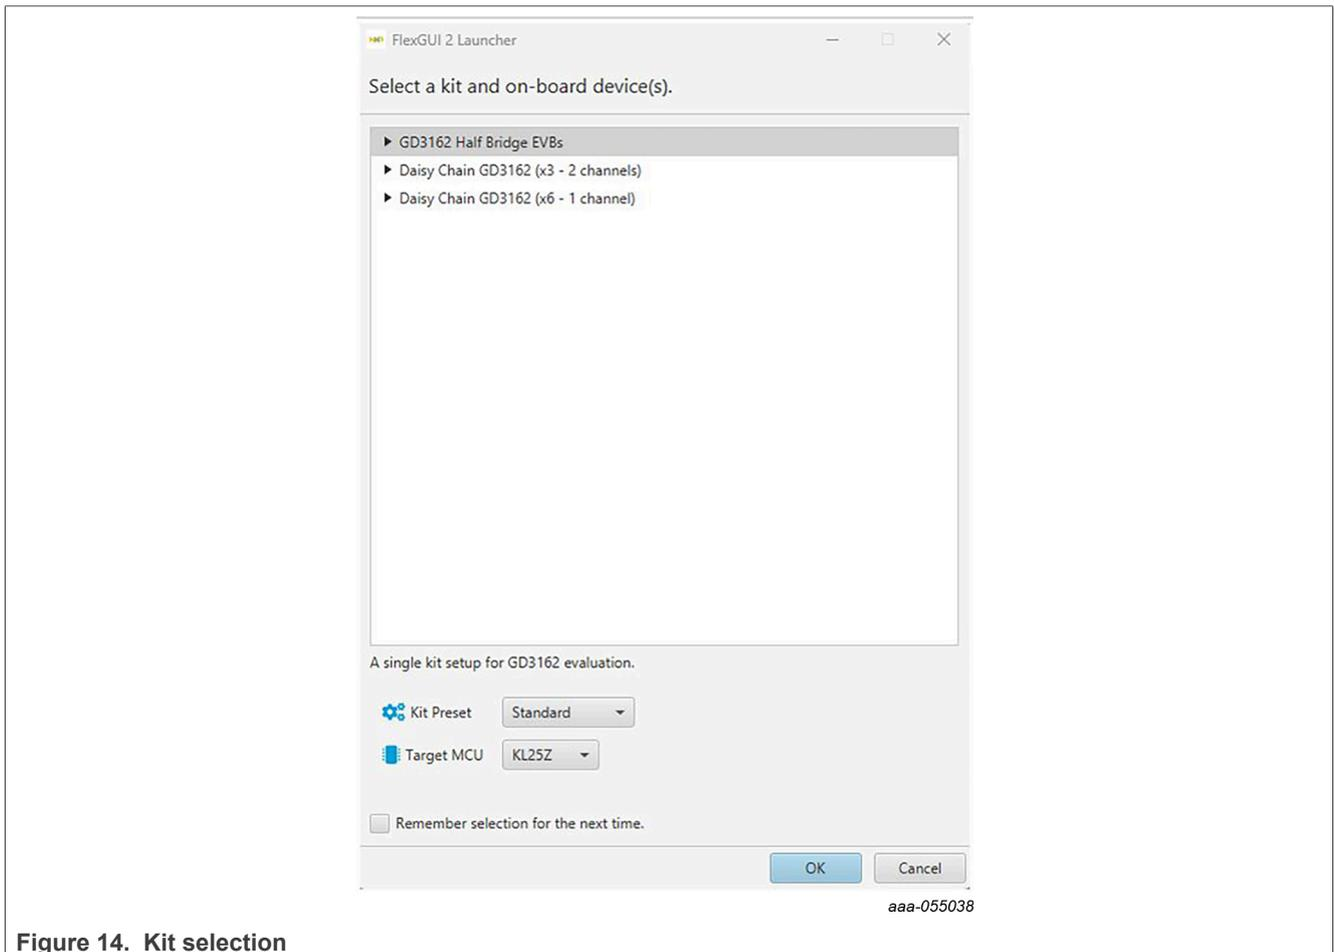
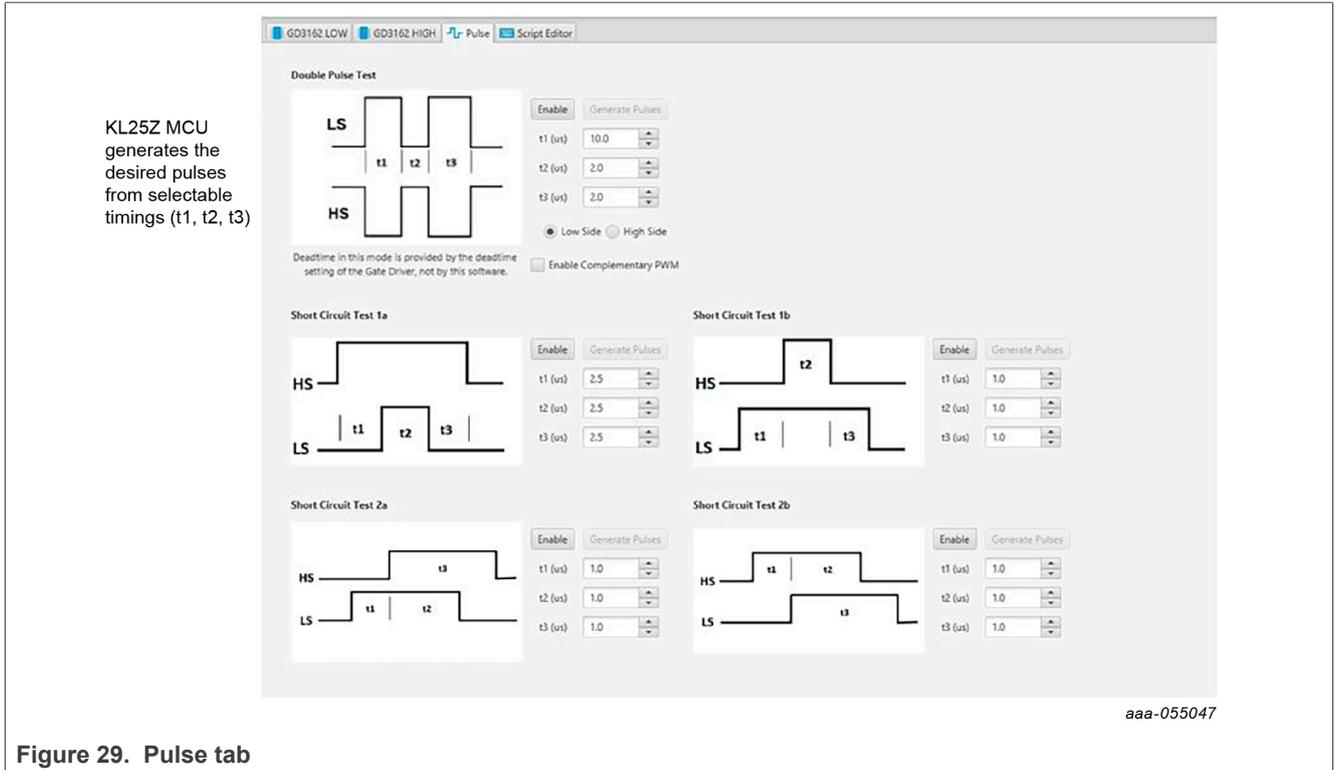

Figure 14. Kit selection
Figure 29. Pulse tab
A way to check quickly that the microcode is programmed and the board is functioning properly, is to plug the KL25Z into the computer, open FlexGUI 2 for GD3162, and verify that the software version at the bottom is 6.4 or later (see Figure 14).
SPI messages can be realized graphically or in hexadecimal format. CSB is selectable to address one or both GD3162 on the board via daisy chain. See Figure 14 to Figure 29 for FlexGUI 2 for GD3162 internal register read and write access.
- When you start the application, Figure 14 allows you to select the target application board, half-bridge EVB or three-phase inverter (x3 - 2 channel) or (x6 - 1 channel), kit preset (standard or daisy chain), target MCU